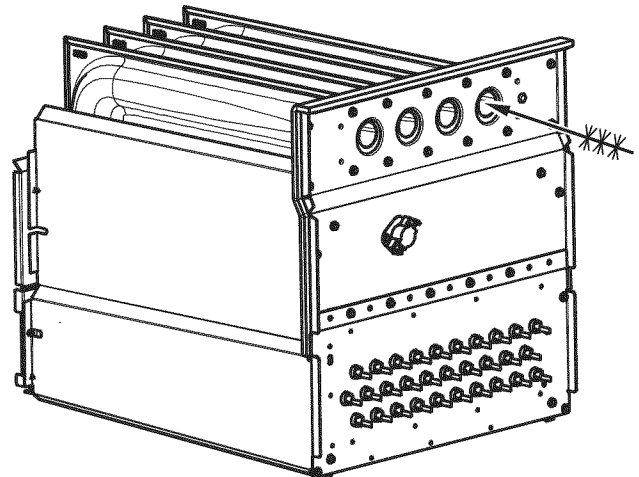

Fig. 60 - Cleaning Heat Exchanger Cell
7. Clean heat exchanger openings with a vacuum and a soft brush. (See Fig. 60.)